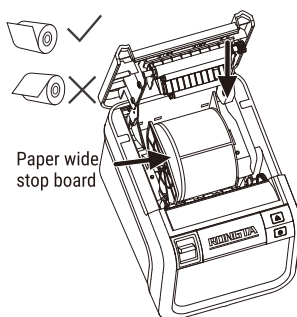

Figure 2
- 2) Put in the paper bin and adjust the paper baffle to the right according to the paper width (as shown in Figure 2 below).